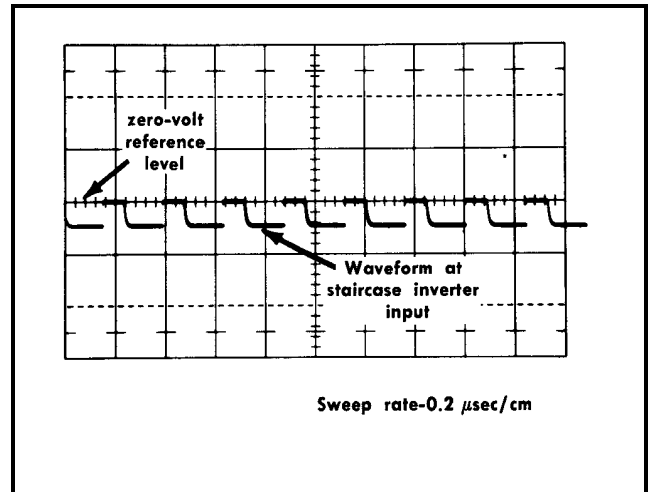

Fig. 5-13. Typical test oscilloscope display for checking adjustment of R380 (INVERTER DC ZERO).
h. Check for a dc level of zero volts at the top of the displayed waveform (see Fig. 5-13).